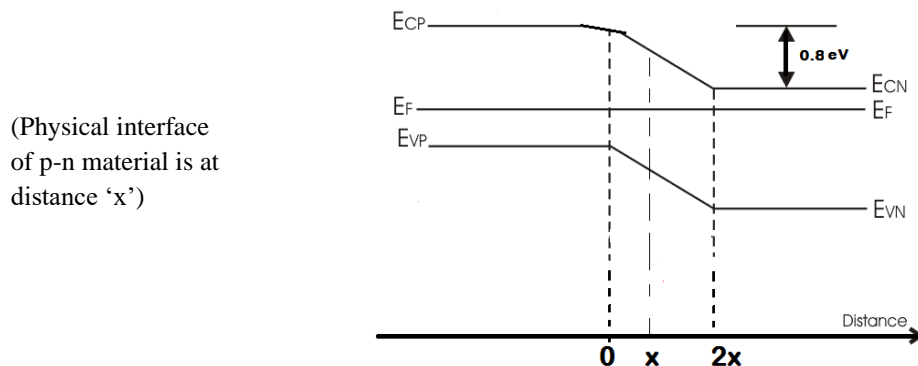

Fig. 3
Q4: (a) Energy band diagram of a semiconductor p-n junction diode is given in fig.3. This is designed using a p-type substrate in the beginning. Find (15)